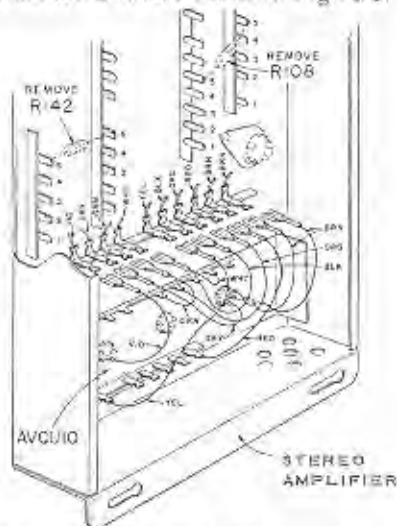
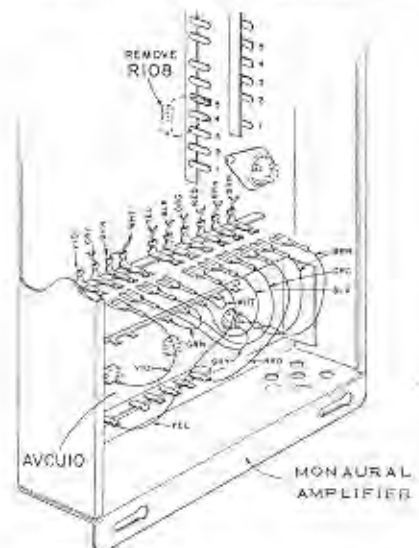
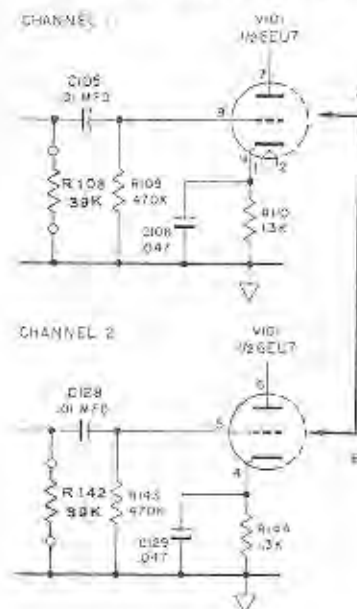

Figure 1. AVCU10 with Stereo Amplifier.
Figure 3. AVCU10 with Monaural Amplifier.
Figure 4. Schematic Section showing location of loading resistors.
3. Figure 1 shows connections to the Type SHFA3 stereo amplifier. These connections also apply when the monaural amplifier, Type C1HFA2, is combined with the supplementary amplifier, Type C2HFA2, to form a stereo amplifier.
Figure 3 shows connections to the monaural amplifier, Type C1HFA2, only.
4. On stereo amplifiers, remove 39 K loading resistors R108 and R142 as shown in Figure 1 and schematic diagram, Figure 4. On monaural amplifiers, remove R108 as shown in Figure 3.